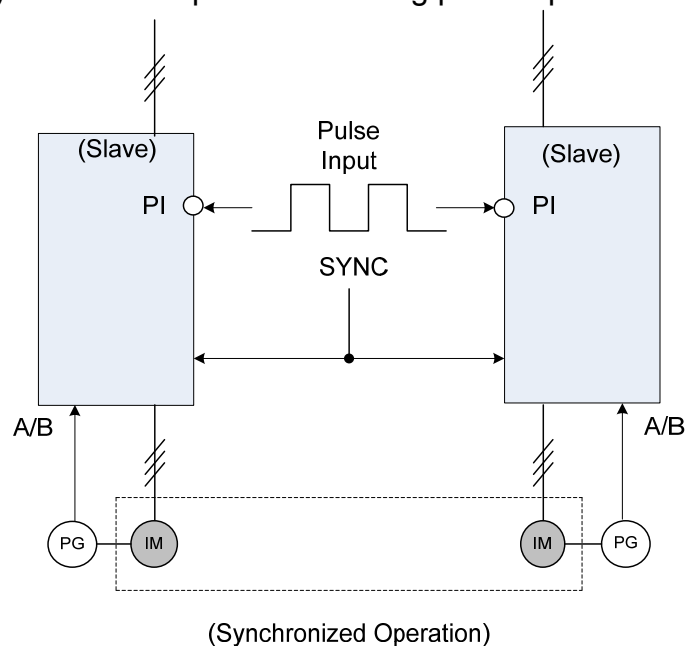

Figure 4.3.33 The synchronized operation of using pulse input
- . Change the serial pulse received from pulse input (terminal PI) into a synchronized frequency command so that the synchronization command (SYNC) ensures the frequency reference can be executed. For the synchronization operation of using pulse input, please refer to Figure 4.3.33.